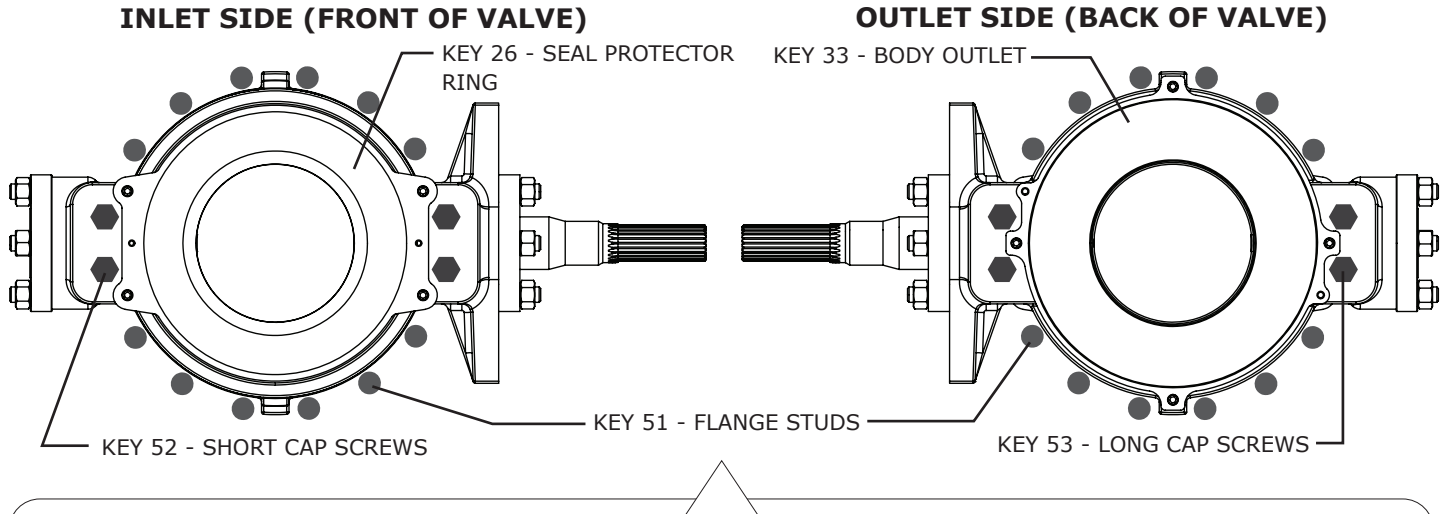

Figure 3 Line Bolt Placement Example (10 Inch 590 Shown) Refer to Figure 4 for an alternative view
- Flange Studs (Key 51) **NOTE:** Flange Studs will need to span the distance from one line flange, across the valve body, and through the other line flange. (Refer to Tables 3 & 4 for stud lengths & Figure 3 for stud placement)
- Long Cap Screws (Key 53) **NOTE:** Long Cap Screws pass through the line flanges and thread directly into the valve body. Long Cap Screws will be required for the outlet side of the valve for single seal valve configurations. (Refer to Tables 3 & 4 for cap screw length and Figure 3 for cap screw placement)
- Short Cap Screws (Key 52) **NOTE:** Short Cap Screws pass through the line flanges and thread directly into the valve body. (Refer to Tables 3 & 4 for cap screw length and Figure 3 for cap screw placement)